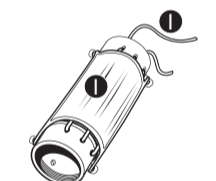

Fig. 18 - Position MITS™ Unit
1. Position body **B** horizontally on table top or other suitable surface with one end facing your body and vein **I** facing UP (Fig. 18).